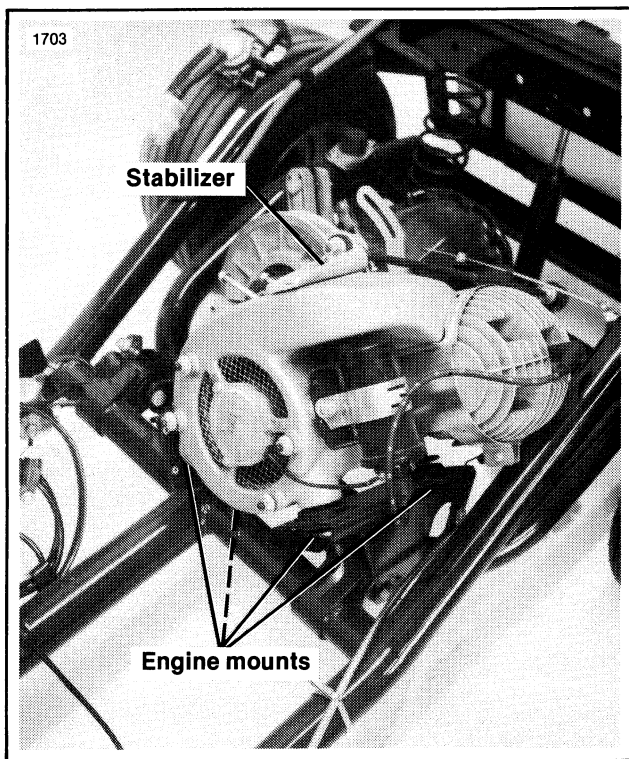

Figure 5-3. Engine Mounting
6. See Figure 5-3. Disconnect the stabilizer from the engine. Remove the four engine mounting bolts. Remove the engine from the frame.
2. See Figure 5-3. Place the engine in the frame. Secure the engine to the mounts using the original hardware. Tighten the bolts and nuts to 30-35 ft-lbs (4.1-4.8 kgm) torque.